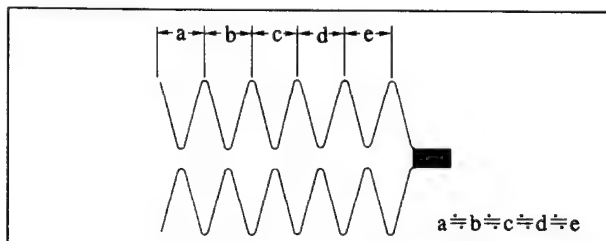

Fig. 43
5-5. CUE AND REV WAVEFORM CHECK (Fig. 43)
- 1) Play back the alignment tape for tracking adjustment and set the REV mode. Confirm that waveform peaks maintain a constant pitch of 5 seconds or more (Fig. 43). In case pitch is not constant, perform section 5-2.Tracking Fine Adjustment and section 5-4. No.7 Guide Adjustment.
- 2) Set the CUE mode. Confirm that waveform peaks still maintain a constant pitch of 5 seconds or more (Fig. 43). Otherwise, perform section 5-2 Tracking Fine Adjustment.